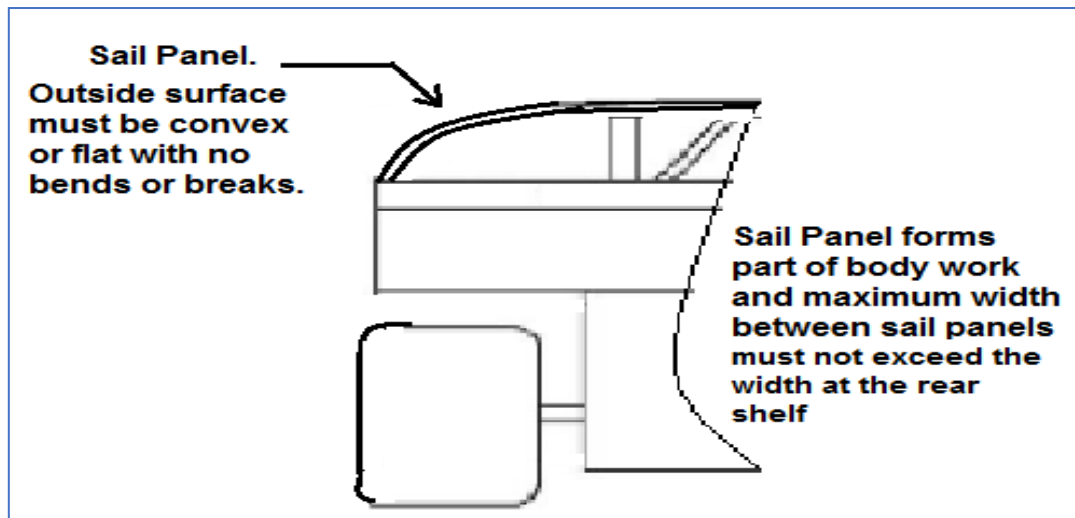

Figure 9
10.2 The Sail Panel outer surface profile must be flat or convex (*Figure 9*).